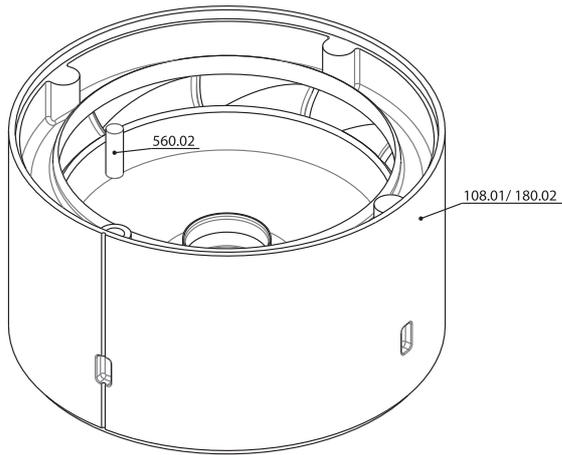

Figure 17: Fixation pin in stage casing
1. Place the pump casing (101) on top of the base plate (890). The connection for the screwed plugs (903.02) should be directed towards the arrow on the base plate.
3. Mount the screwed plugs (903.02) into the pump casing (101) according to chapter "torques".
6. Mount 4 tie bolts (905) in the base plate (890).
7. Place the o-ring on the ¼" drain plugs (903.02) and tighten the plugs (903.02) according to chapter "torques" in the pump casing (101).
8. The pump casing is provided with a fixation hole against rotation. Make sure the hole is fixed with the cylindrical pin (560.02), see figure 17
1. Place the pump casing (101) on the table.
3. Mount the screwed plugs (903.02) into the pump casing (101) according to chapter 3Torques.
8. The pump casing is provided with a fixation hole against rotation. Make sure the hole is fixed with the cylindrical pin (560.02), see figure 17 Fixation pin in stage casing